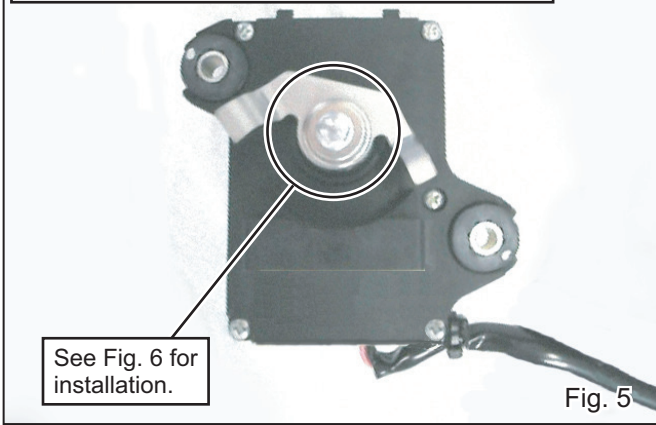

Fig. 5
- 7) Mount Exhaust Control Valve Cancellor Bracket on exhaust valve motor with Aluminum Spacer 12-20-7, Washer M12, Washer M5 and stock bolt removed from motor pulley at step 6) (See Fig. 5 & 6 on next page). Tighten and torque the bolt.